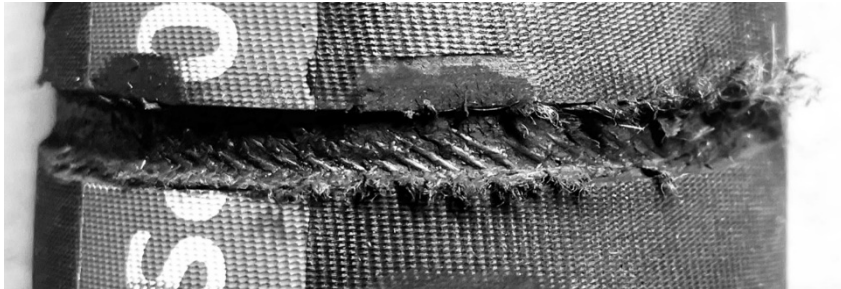

Figure 7.1
- 7.1.2 Inspect blast hose (#3). If the blast hose is frayed, replace the blast hose, or cut back to good hose. (See Figure 7.1)